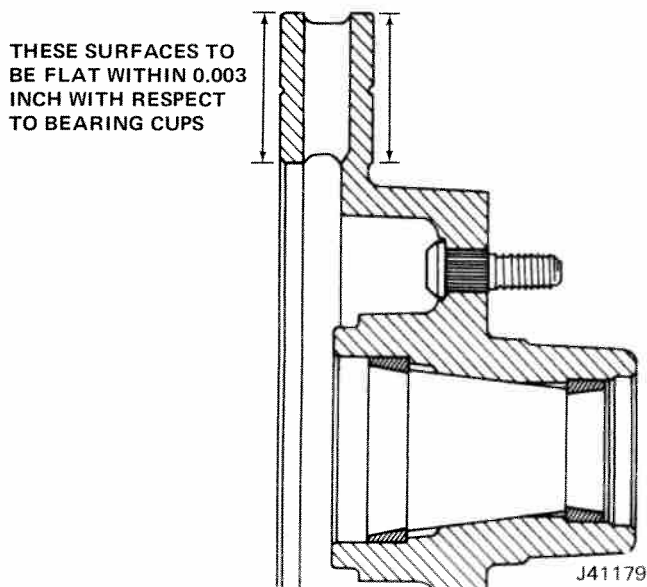

Fig. 9-52 Checking Surface Parallelism
(3) **Parallelism.** Surfaces must be parallel within .003 inch (total), dial indicator runout. Rotor surfaces not parallel within specification will cause shoes to wear on an angle (fig. 9-52).